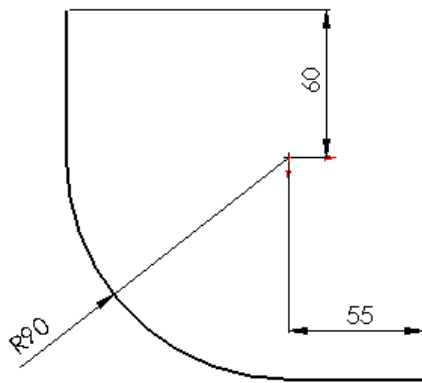

Figure 9-106 Sketch of the path
- profile of the sweep feature. You will create a thin sweep feature because the base feature of the model is a hollow feature, refer to Figures 9-106 through 9-108.
- Draw the sketch of the path of the sweep feature on the **Front** plane and add the required relations and dimensions to the sketch as shown in Figure 9-106. Exit the sketching environment and change the view to isometric view.